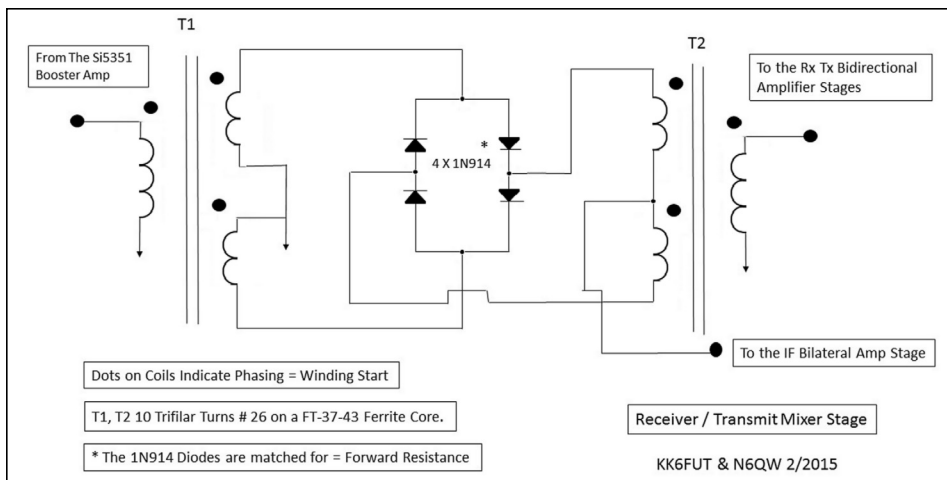

Figure 4—RxTx Mixer stage.
**RxTx DBM**—another nearly identical mixer, this time used to mix the output of the VFO with the incoming signal on receive to produce the signal for the IF stage, or on transmit to take the low level SSB signal at the IF frequency and mix that to produce the transmitted signal. The small differences are that this DBM does not have the balance potentiometer. Instead, the connections originally going to the balance potentiometer go directly to ground. Also, the Audio Low Pass Filter is also not present in this mixer. Figure 4 is the Schematic of the RxTx Mixer stage.